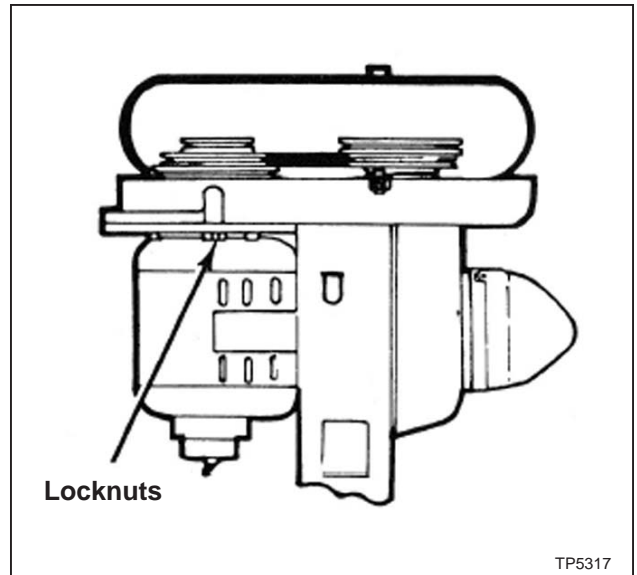

Figure 2.33 - Changing E-Head Speed
2. Loosen the two motor locknuts (see Figure 2.33).